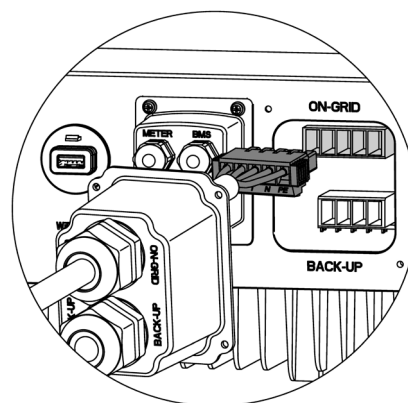

Fig. 38. AC ON-GRID connection.
7. Connect the AC ON-GRID connector to the AC ON-GRID terminal on the inverter, as shown in Fig. 38 below.